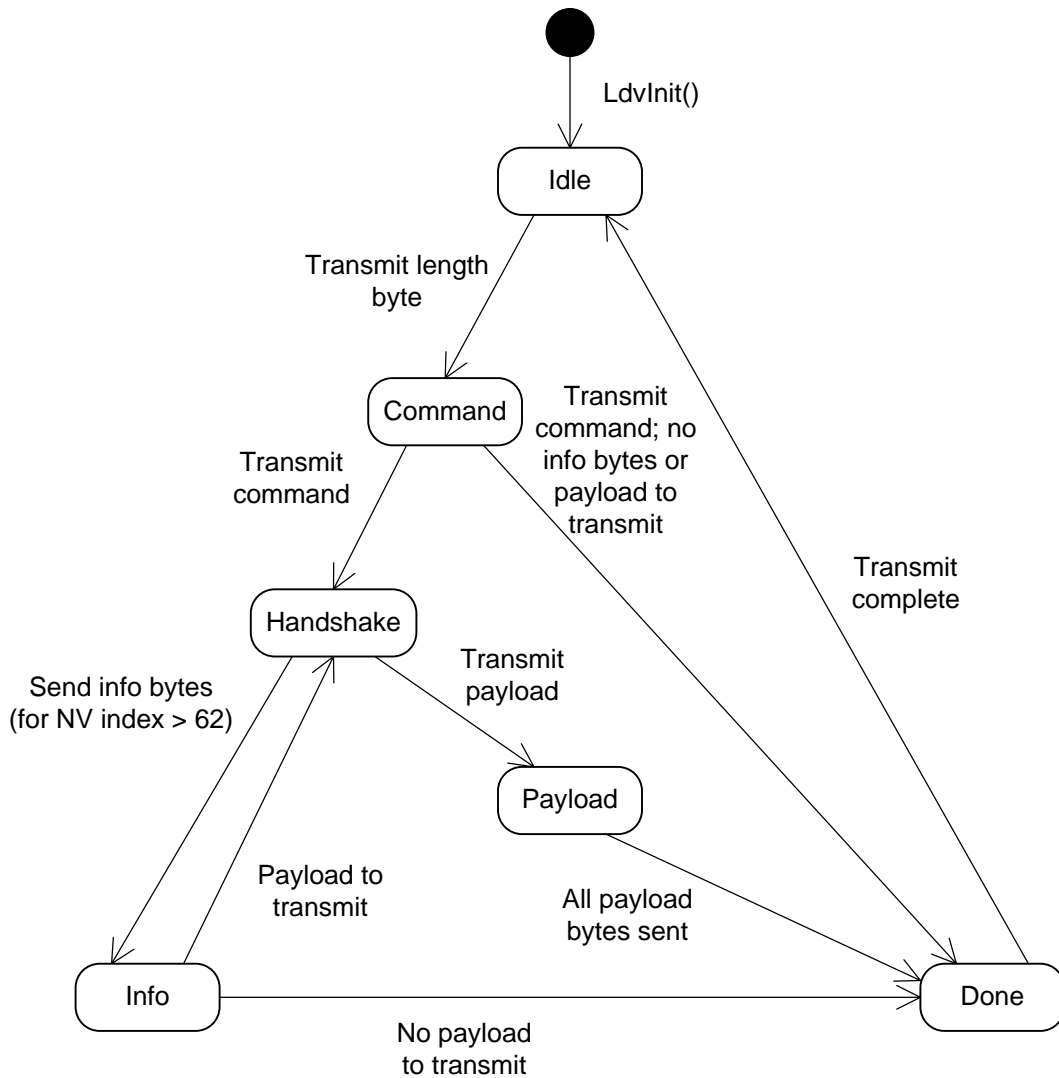

Figure 6. State Machine for Transmitting Data
Figure 6 on page 24 shows the states and state transitions for transmitting data.
- *Info state:* Although **Figure 6** shows only one Info state, the driver implements two Info states: Info1 and Info2. The driver enters the Info1 state to send the first byte of the extended header for a network variable update or poll command for a network variable index greater than 62. The driver then enters the Info2 state to send the second byte of the extended header. There is no handshake required for sending the second info byte. If the command byte indicated a payload for the message, the driver re-enters the Handshake state to process the handshake for sending the payload. If there is no payload, the driver enters the Done state.